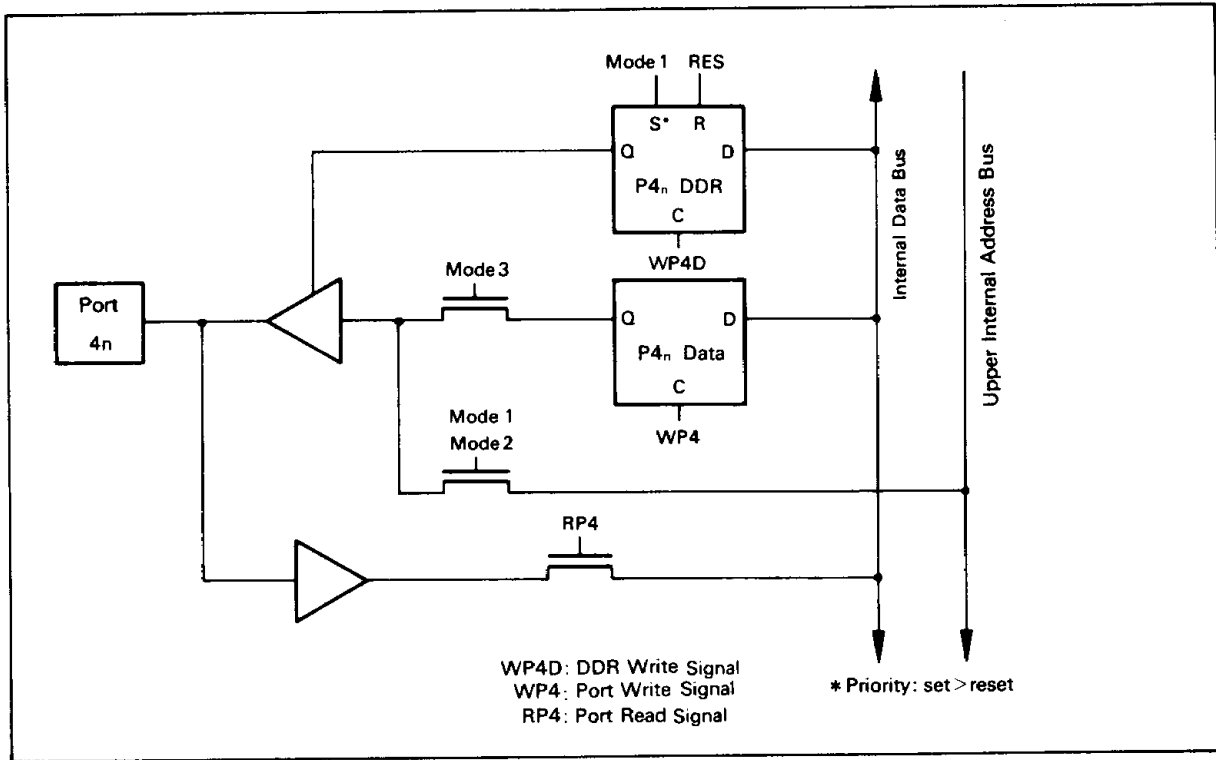
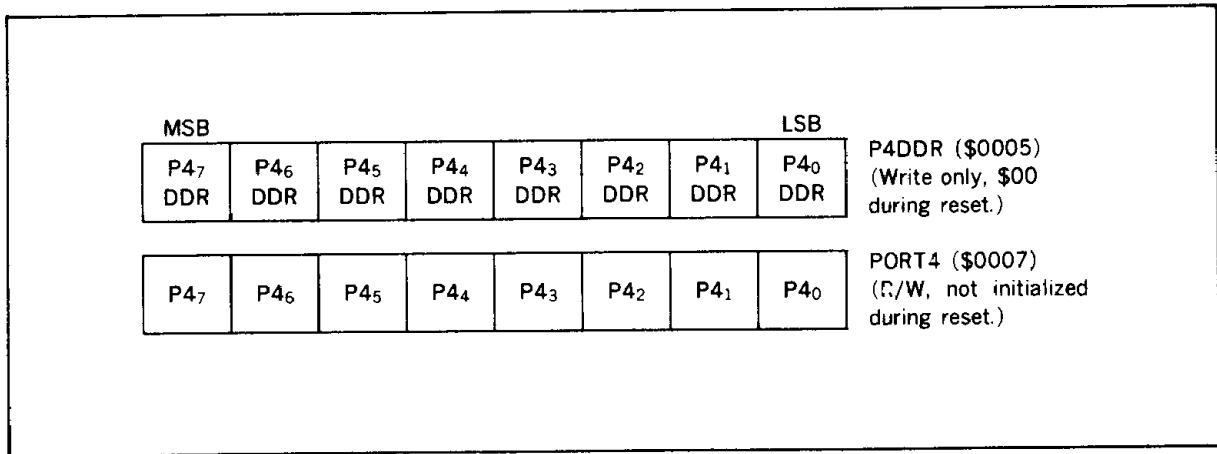

Figure 15. Port 4 Block Diagram
Figure 16. Port 4 Register and Data Direction Register
**Port 4** : Port 4 is an 8-bit I/O port (figure 15). Each bit of the DDR (\$0005) defines the data direction of the corresponding bit of port 4 (figure 16). In the expanded modes (1 and 2), port 4 is the upper address bus (A15-A8). In mode 1 (expanded mode with no external ROM), the DDR is set